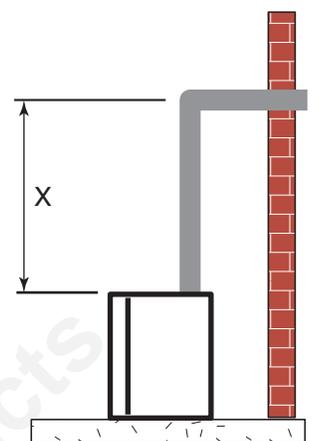

Figure 12 -
Place fireplace into position. Measure the vertical height (X) required from the base of the flue collars to the center of the wall opening. *Figure 12*